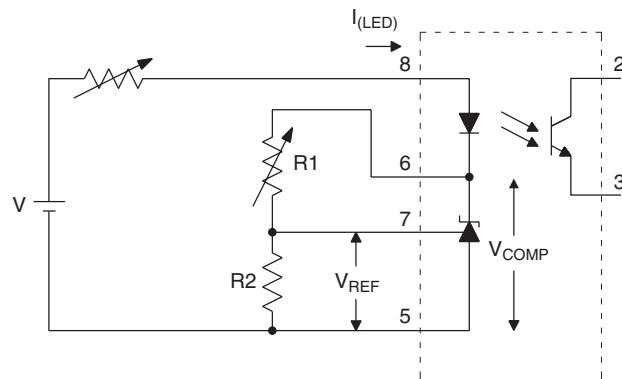

FIG. 2. $\Delta V_{REF}/\Delta V_{COMP}$ TEST CIRCUIT
2. The dynamic impedance is defined as |Z_{OUT}| = ΔV_{COMP}/ΔI_{LED}. When the device is operating with two external resistors (see Figure 2), the total dynamic impedance of the circuit is given by: